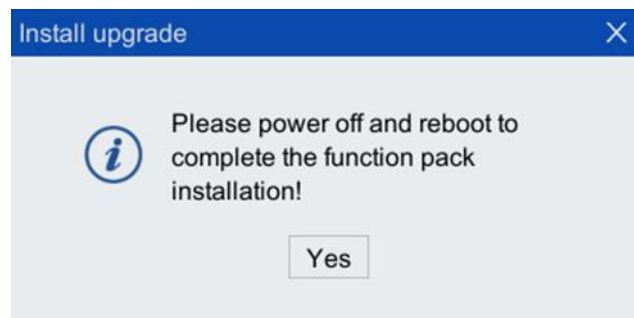

Figure 2-6 Install upgrade dialog box
- Step8. After the progress bar is updated, the [install and upgrade] dialog box shown in Figure 2-6 will pop up, and click <Yes>. At this time, power off and restart the equipment to complete the package upgrade.